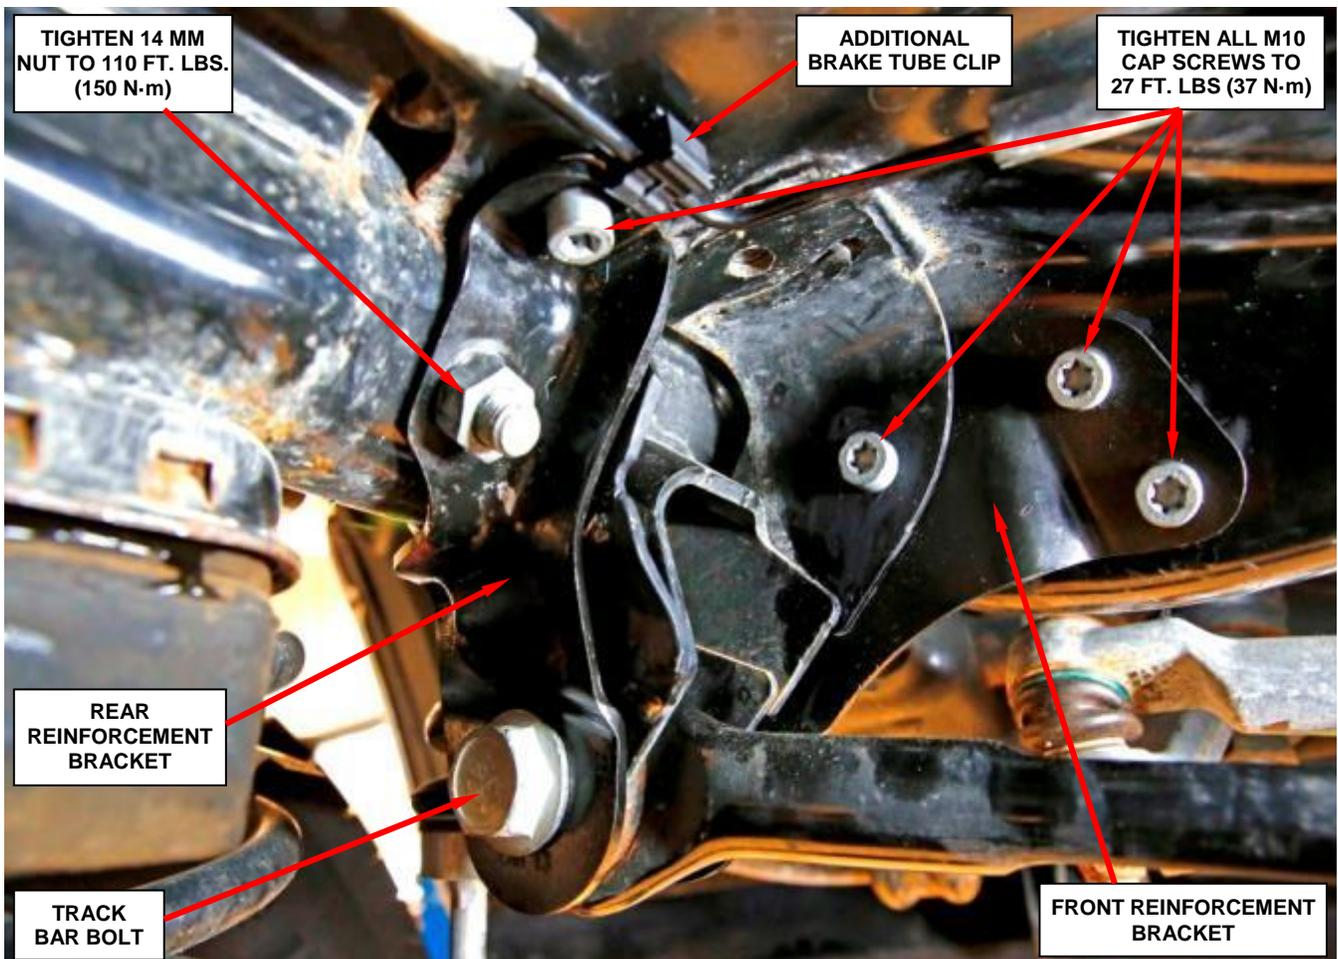

Figure 30 – Correctly Installed Reinforcement Brackets
66. Tighten the 14 mm nut on the rear reinforcement bracket to 110 ft. lbs. (150 N·m) (Figure 30).
67. Tighten all of the remaining reinforcement bracket M10 cap screws to 27 ft. lbs. (37 N·m) (Figure 30).